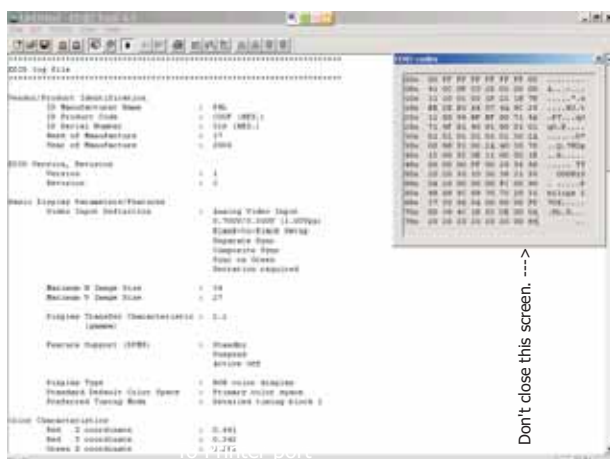

Fig. 14
4. Click  icon (Read EDID function) to read DDC EDID data from monitor. The EDID codes will display on screen as shown in Fig. 14.